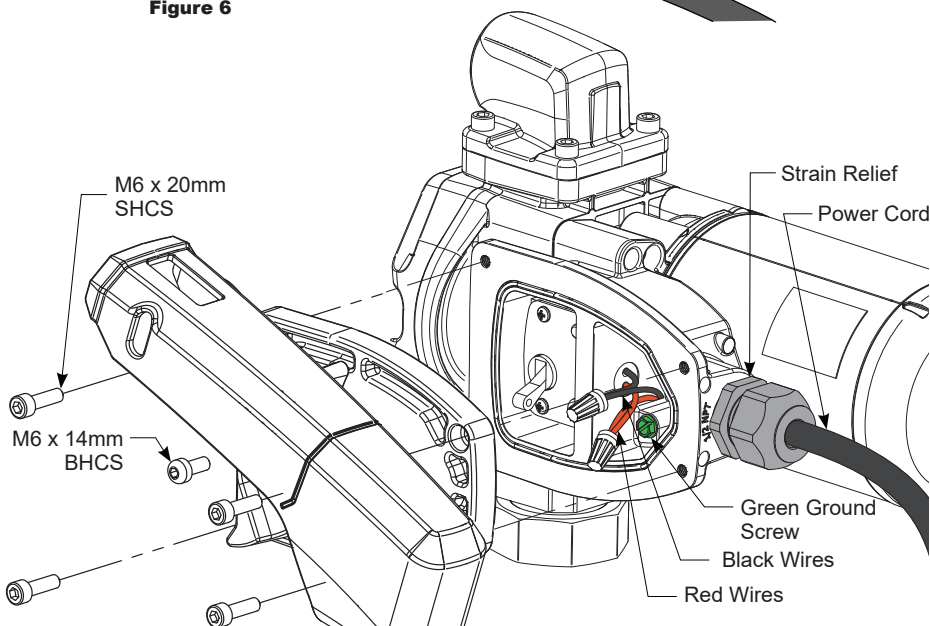
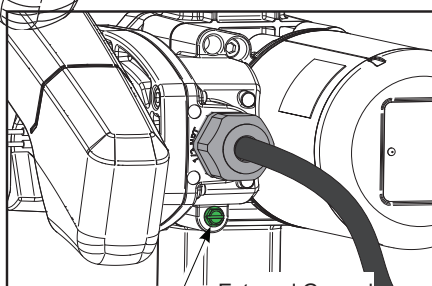

Figure 7
Figure 7a
To install the power cord, remove the (4) M6-1.0 x 20mm SHCS and electrical coverplate (see Figure 7).
Insert the power cord through the 1/2 inch NPT connection on the back of the pump (see Figure 7). Using wire nuts, connect the black wire to the black wire and the red wire to the red in the pump's electrical cavity. Position the wires inside the electrical cavity and tighten the strain relief grip securely. Make sure surfaces are clean. Reinstall the electrical coverplate and switch lever, and tighten securely.
A grounding connection is provided. It is identified as a green colored binding head screw in the electrical cavity (see Figure 7): an external ground can be used instead. When using the external ground for the G20-012PO/PX (Zone 1 or 2), the installer **must** use a ground wire with a minimum cross-sectional area of 4mm². To use external ground, remove green ground screw from electrical cavity and install in location shown (see Figure 7a).